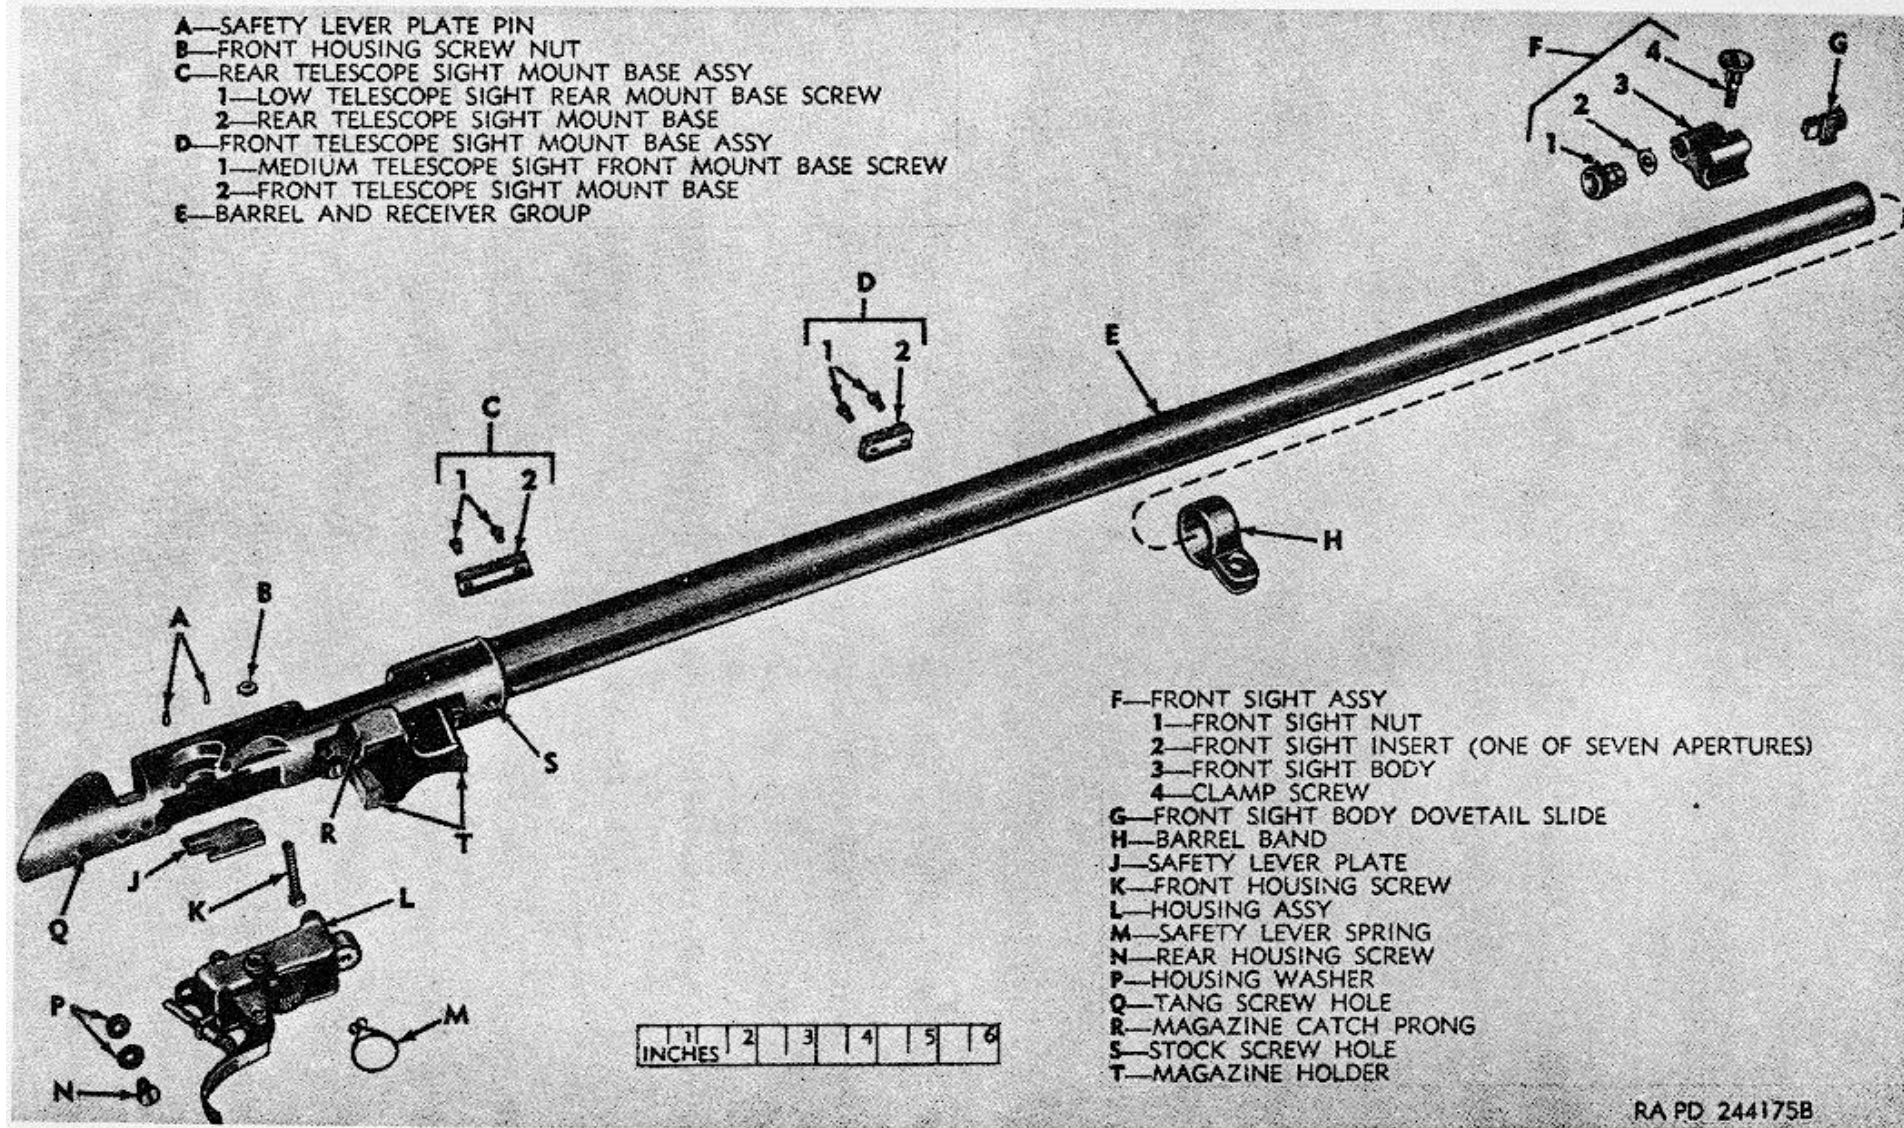

Figure 60. Barrel and receiver group with related parts removed (Winchester rifle M52 (HB)).
Note. The key letters shown below in parentheses refer to figure 60.
- (7) Slide the safety lever plate (J, fig. 60) in its groove in the receiver to its extreme forward position. Install the housing assembly on the receiver and align holes; there must be no interference between the safety lever plate and the sear pin.